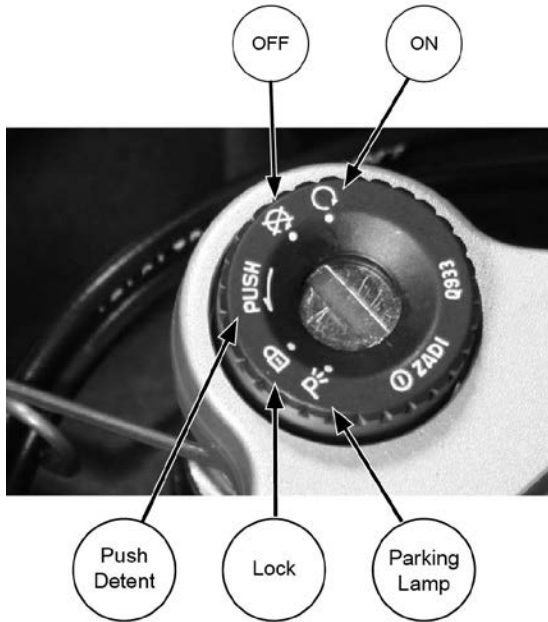

Figure 5. Ignition Switch
1. See Figure 5. Turn the key clockwise to the ON position.
- See Figure 5. Turn the key counterclockwise to the OFF position to shut the motorcycle off.
See Figure 5. When the ignition switch is in the PARKING LAMP position, the running lamps, tail lamps, and instrument cluster are illuminated. The front and rear turn signals can also be activated.
2. See Figure 5. Turn the ignition/headlamp key switch counterclockwise to the OFF position to turn the ignition power completely off.